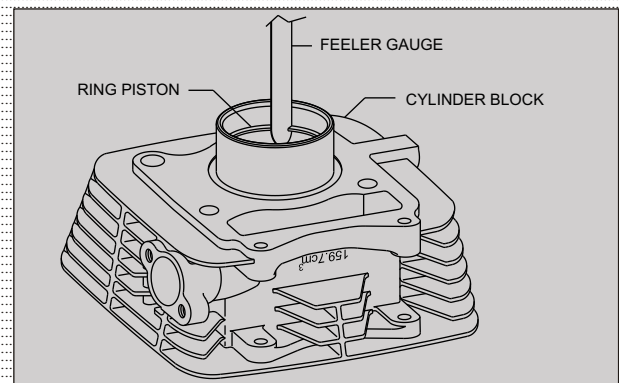

Fig. 3.165
- The end gap of each ring (top and 2nd) is measured with the ring fitted securely in the cylinder bore at 20 mm from cylinder bottom. (Fig. 3.165)